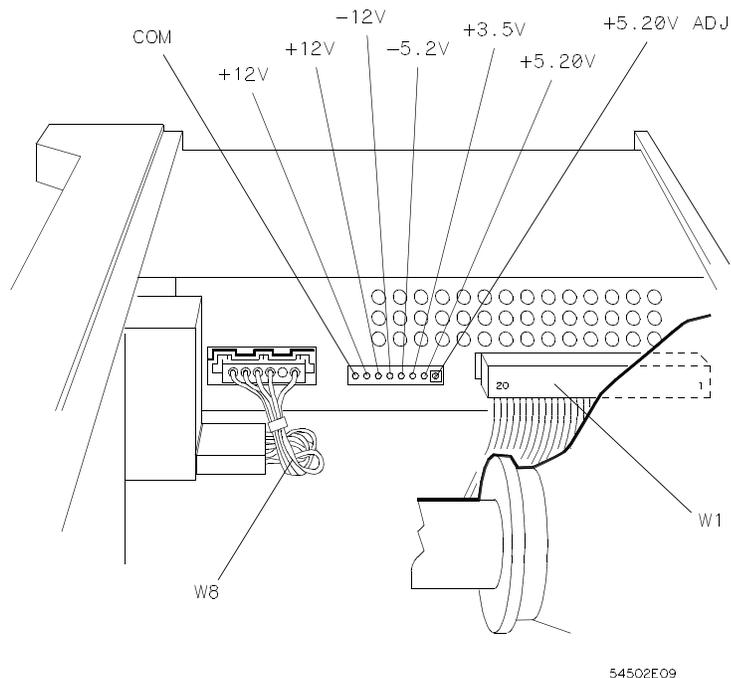

Figure 4-1. Power Supply Adjustments
1. Disconnect power cord from HP 1650B/51B. Refer to figure 4-1.